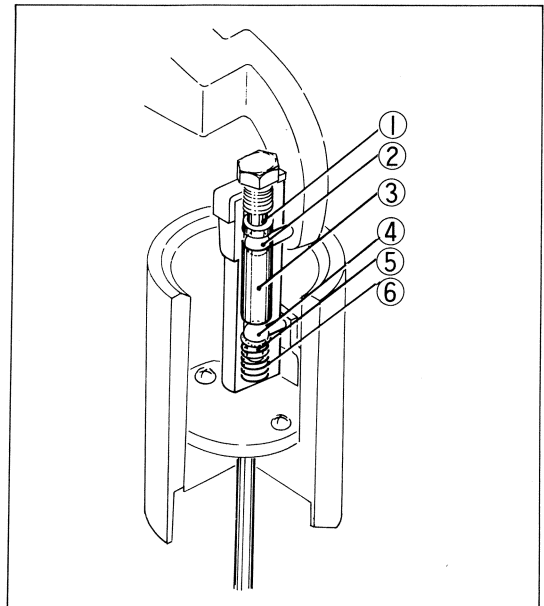

Fig. 12 Throttle valve parts
- When installing throttle valve, be sure to assemble the parts correctly by referring to Fig. 12.